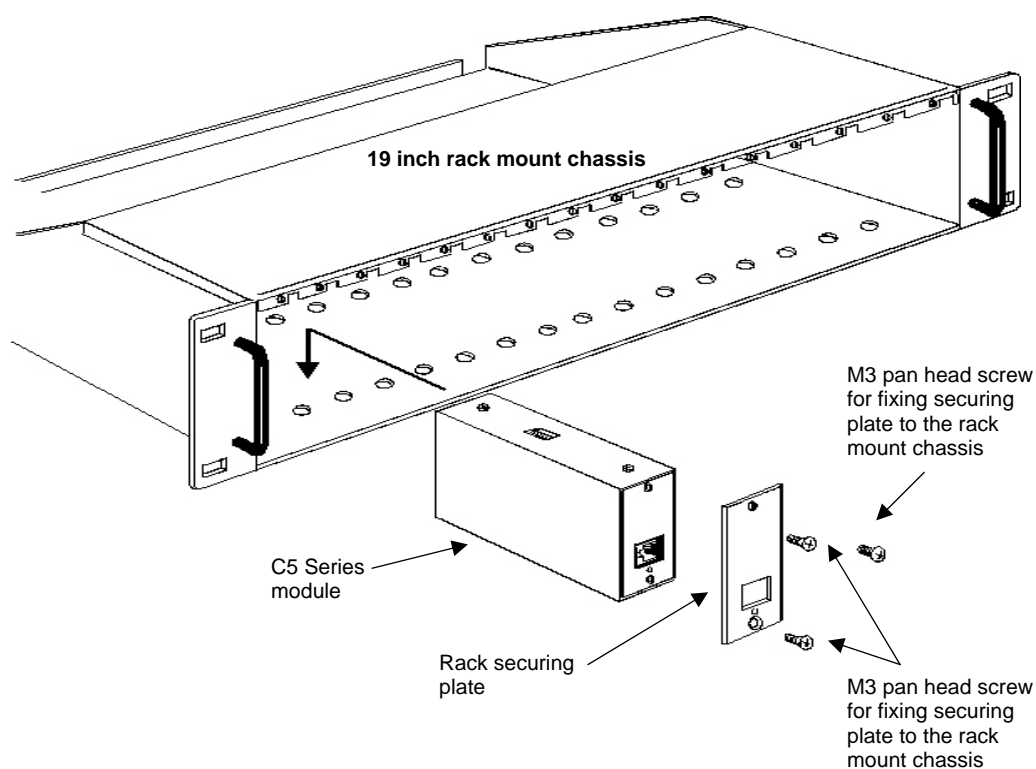

Figure 10 – Rack mounting C5 Series modules
2. Offer the assembly into the rack mounting chassis as shown in figure 10 and locate the module so that the two pan head screws fit inside the mating fixing holes in the base of the rack mount chassis.